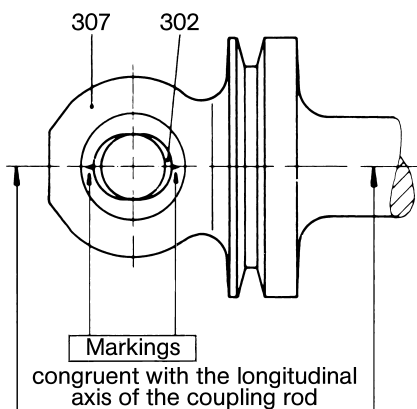

Figure 7: Inserting the coupling rod bush
- Pull the splash ring (123) onto the clamp set (123) (please see Section 7.2.2.2, Assembly of the rotor and the joints).
- Drive the guide bushes (303) halfway into the rotor (401) and the hollow shaft (125) using a tapered brass drift.
- Press the coupling rod bush (302) into the coupling rod (307) so that the longitudinal axis of the oval hole (marked with two notches) coincides with the longitudinal axis of the coupling rod, and the coupling rod bush extends from the coupling rod symmetrically on both sides (see Figure 7).